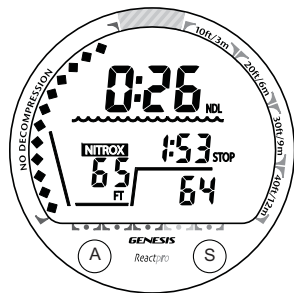

Fig. 38 - DS Main
Upon ascending to within 10 FT (3 M) below the calculated Deep Stop, a Deep Stop (DS) Main screen will automatically appear. Information displayed includes (Fig. 38) -